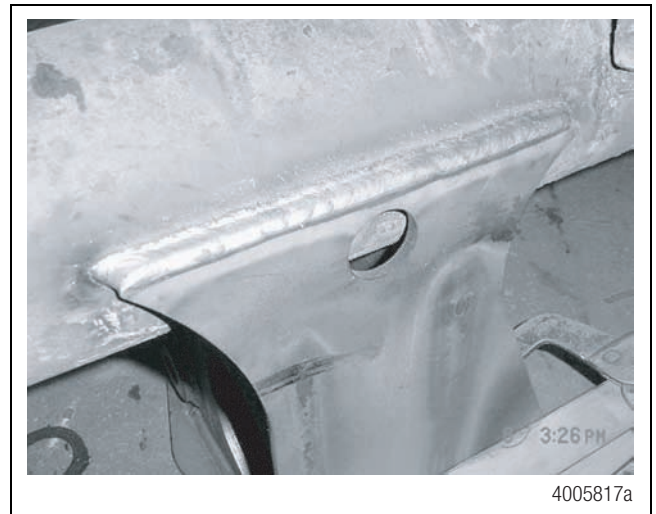

Figure 21
4. Complete the welding for one axle seat, front and back. Then, weld the other axle seat, front and back. Figure 21.